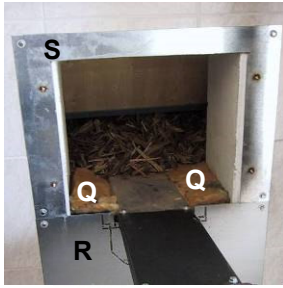

Fig: 7
- Pack the gap at the sides and below the outfeed auger with mineral wool. Please refer (Q) Fig.7
- Fit the cover plates supplied (R) on the inside and outside. Please refer Fig.7
- Fix the top edge of the lining (S) in the wall flush with the cover plates. Please refer Fig.7